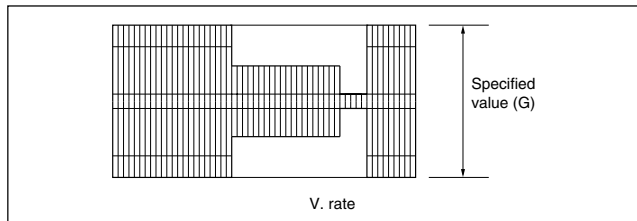

Fig. 3-3-4b REC color (colour) level
- (1) Connect the adjustment tool (H3) to the measuring point (D1).
- (2) Apply the external trigger signal to D.FF (E) to observe the PB color (colour) waveform at the measuring point (D2).
- (3) Play back the signal (A3) in the mode (B1) of the alignment tape (A1).
- (4) Press the channel buttons (+, -) simultaneously to enter the manual tracking mode. This also brings tracking to the center (centre).
- (5) Adjust tracking by pressing the channel buttons (+, -) so that the PB color (colour) waveform becomes maximum. Make a note of the higher PB color (colour) level as "B" at this time.
- (6) Record the signal (A3) in the mode (B1), and play back the recorded signal.
- (7) Set the VCR to the EVR mode by transmitting the code (F1) from the Jig RCU.
- (8) Set the EVR address to (F2) by pressing the button of the digit-key remote controller.
- (9) Adjust with the channel buttons (+, -) on the VCR (or on the remote controller) so that the higher level channel becomes the specified value (G) of the note "B" level as shown in Fig. 3-3-4b. (Adjust before recording, then confirm it by playing back.)
(10) After adjustment, record the signal (A3) then playing it back again. At this time, confirm that there is no inverting phenomenon or noise appearing on the playback screen.
(11) Release the EVR mode of the VCR by transmitting the code (F1) from the Jig RCU again. (When the EVR mode is released, the adjusted data is memorized.)
(12) Repeat steps (3) to (11) in the mode (B2).